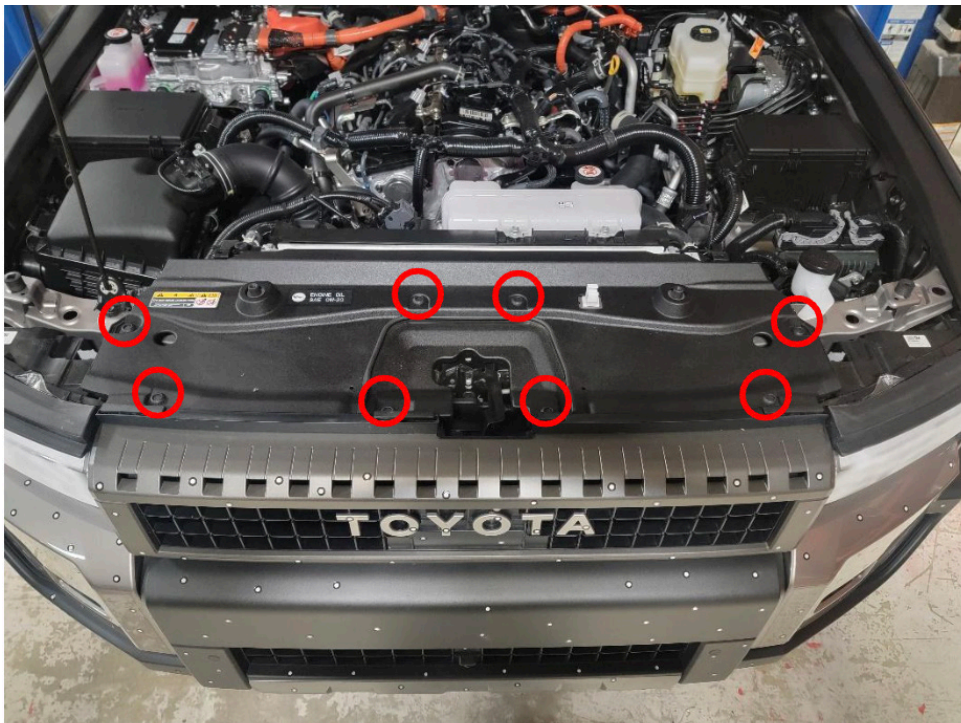

Figure 1.
1. Open the hood and using a panel pry tool, remove the eight (8) push pins holding the shroud to the radiator support and grill. Remove the shroud from the vehicle. Figure 1.